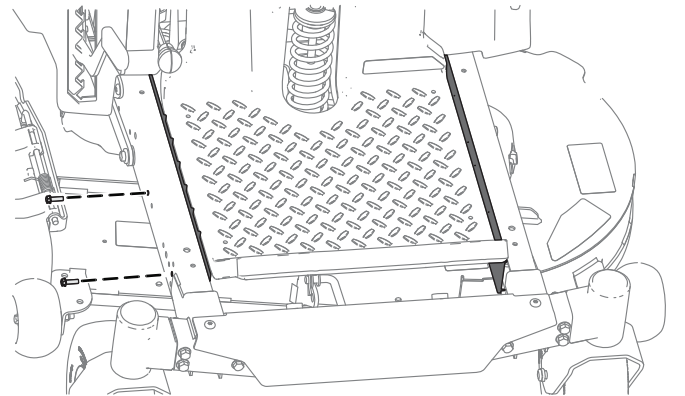

Figure 3
2. Remove the guards on both sides of the frame (Figure 3).